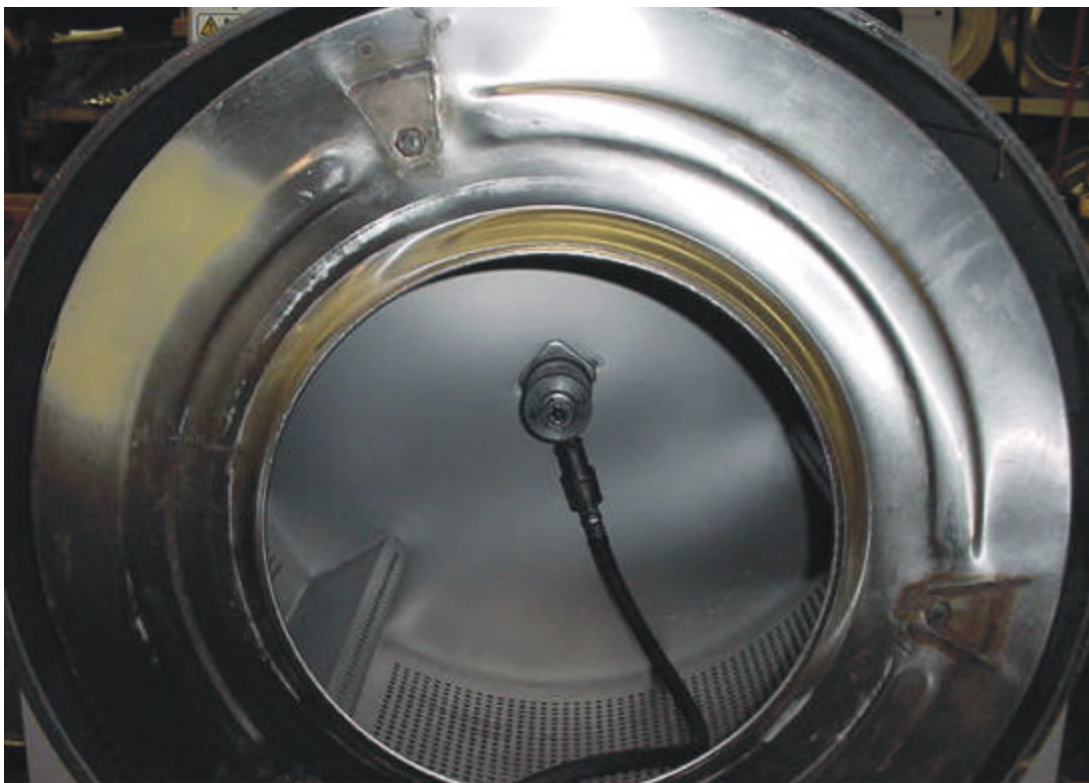

Figure 5
- 6) How the components look installed. Figure 5.